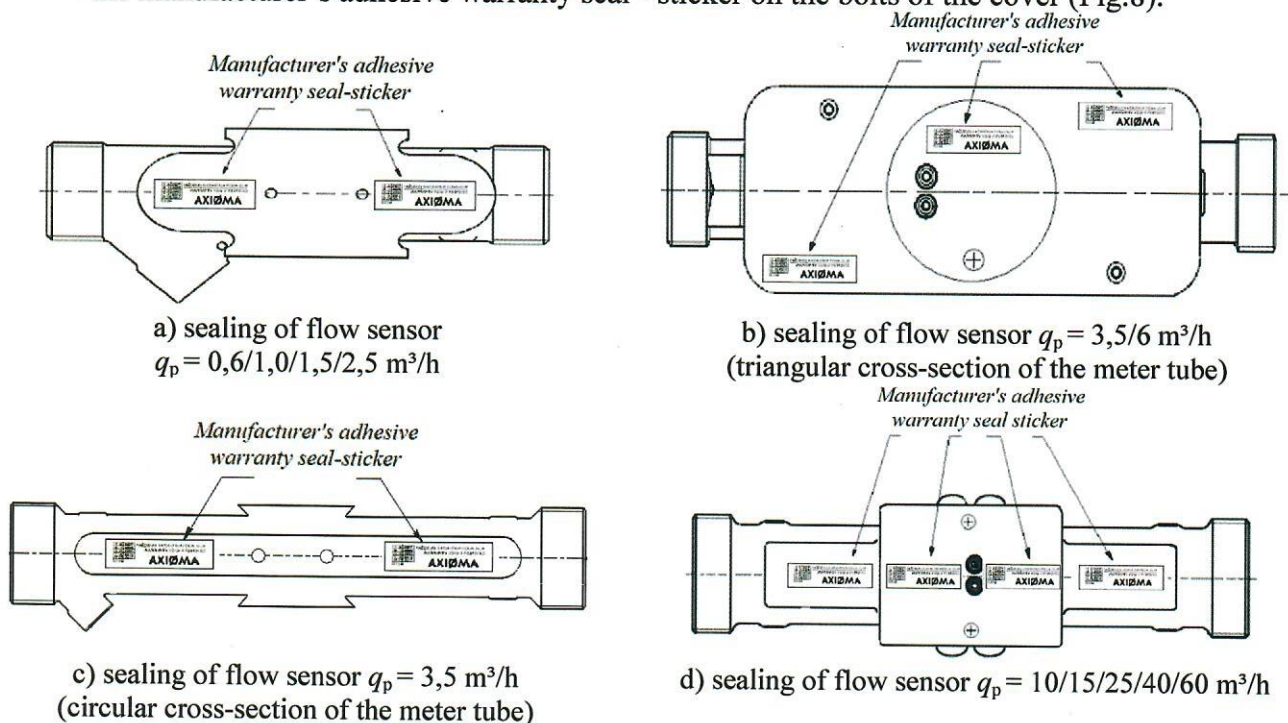

Fig.8. Sealing of flow sensor of the heat meter
- the manufacturer's adhesive warranty seal - sticker on the bolts of the cover (Fig.8).